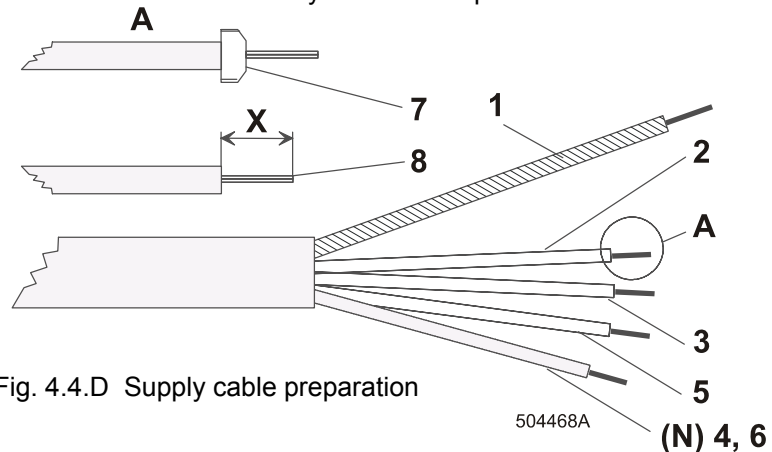

Fig. 4.4.D Supply cable preparation
Use a cable or cord with copper conductors. Adapt the conductor ends according to the description in fig. 4.4.D. A green-yellow conductor (protective) must be longer, so that in the event that a cable is pulled out incidentally, the conductor is the last to be disconnected. When using the cable (hard copper conductors), strip the individual cores in such a way to avoid the protrusion of a stripped part from the terminal when the conductor is connected into the device (7-dimension X). When using a cord (stranded copper conductors) the individual cores can be stripped in a similar way as in the case of a cable, or molded tubes (6) can be used. In this case use tubes with an insulated neck to avoid any contact to a part under current after the conductor connection.